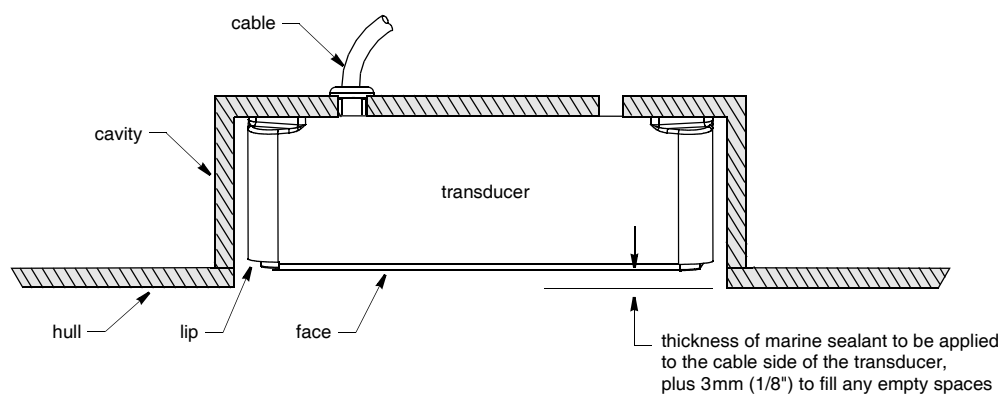

Figure 2. Dry fitting
3. From outside the hull, thread the transducer cable through the hole in the mounting cavity (Figure 2). Push the transducer into the cavity as far as possible.
1. To ensure that the marine sealant will adhere properly, on the hull sand the area around the hole, inside and outside. On the transducer, sand all the surfaces that will contact the hull. Sand the lip of the transducer (Figure 2). *Do not sand the face.* Remove all dust using a tack cloth. Do not use alcohol on the transducer.